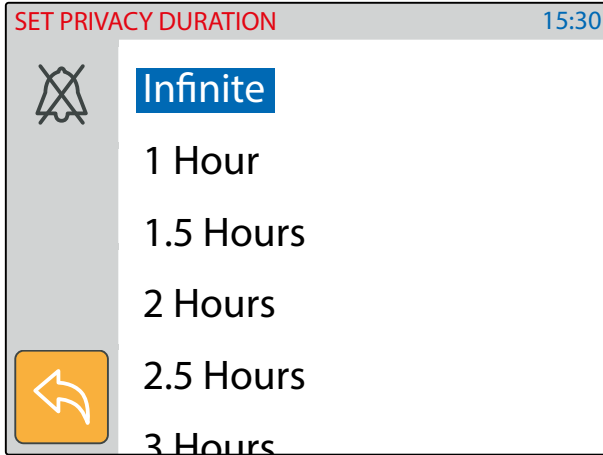

Fig. 7 Set privacy duration
- The current value is shown (Fig. 7).